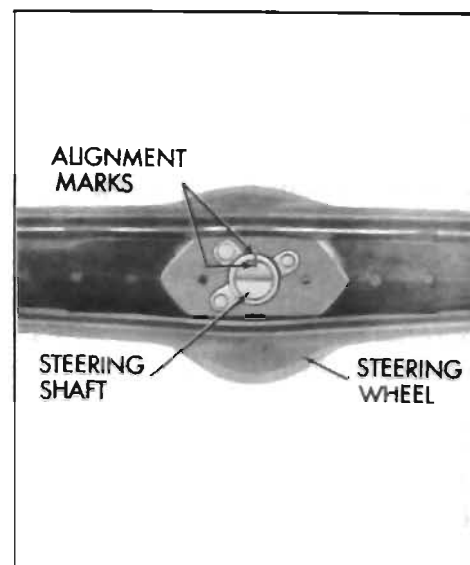

Figure 8-9—Steering Wheel and Shaft Alignment Marks
to specified load limits and hard steering exists, the front suspension members should be checked for lubrication and alignment and tire inflation pressures should be checked. When the car is moving straight ahead, the steering wheel should be in the straight-ahead position, or not over 5/8" to either side of the straight-ahead position. If steering wheel is too far to either side, check wheel for proper position on steering shaft (Figure 8-9) and check tie rods for equal adjustment and toe-in (Group 7). It is important to have the steering gear in the no-lash range when car is moving straight forward.
1. Install steering wheel and align location marks on shaft and hub of wheel. See Figure 8-9.